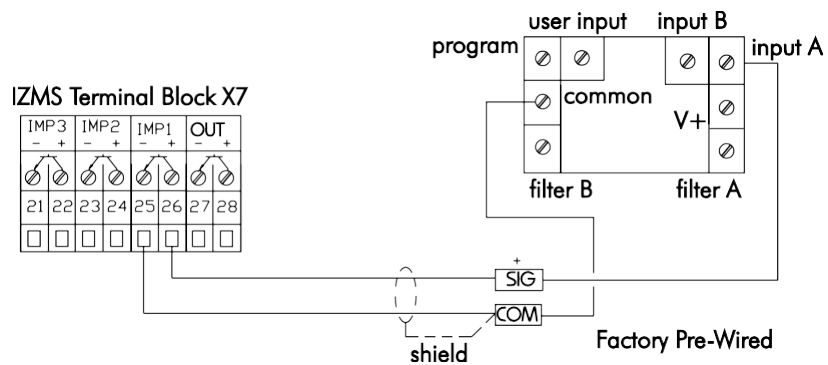

Figure 3-13. RT-50 Rate/Total Indicator Signal Wiring Configuration
- P RT-50 Rate/Total Indicator (Figure 3-13)